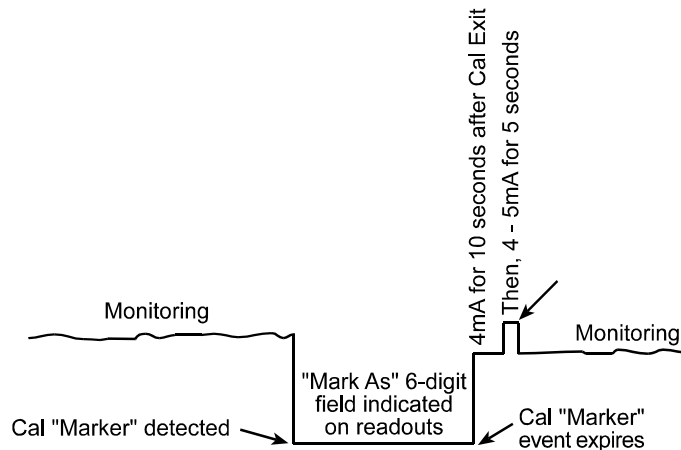

Figure 2-19
**Sensor Life** should only be activated when the Marker event is *Calibration* and when a sensor life value is transmitted after each calibration. This feature is provided primarily for use when interfacing the ViewSmart 6400 to R. C. Systems' ST-48 Sensor Transmitters which may be configured to transmit sensor life values after each calibration (Figure 2-19). For **Sensor Life** to record properly the monitor must perform as follows: After the *Calibration* Marker interval, 4.0mA transmits for 10 seconds to indicate its *calibration mode* is complete. The monitor then transmits between 4.0mA and 5.0mA for five seconds depending on remaining sensor life where 4.0mA = 0% and 5.0mA = 100% remaining sensor life. The ViewSmart 6400 reads this value and records it as the channel's **Sensor Life**. **Sensor Life** is stored in the ViewSmart 6400 Modbus database and displayed as a bar-graph in the Sensor Info screen (see section 2.7.7). It is a useful tool for planning sensor replacement schedules.